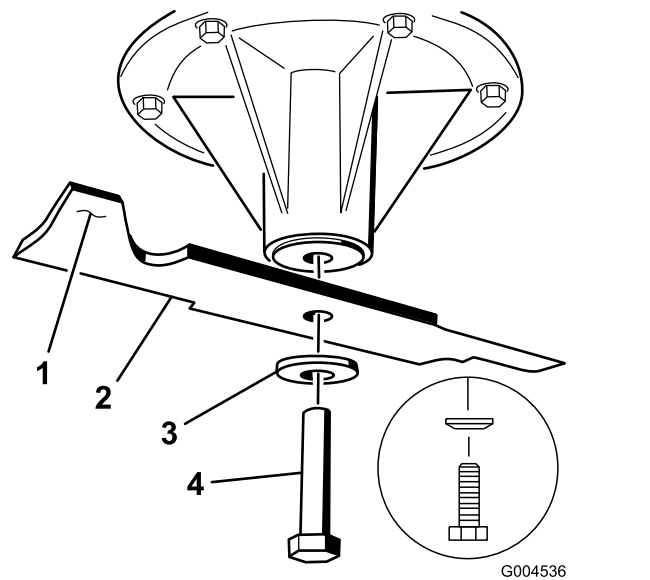

Figure 94
1. Install the blade onto the spindle shaft (Figure 94).
2. Install the spring disk and blade bolt (Figure 94).
Note: Install the spring-disk cone toward the bolt head (Figure 94).